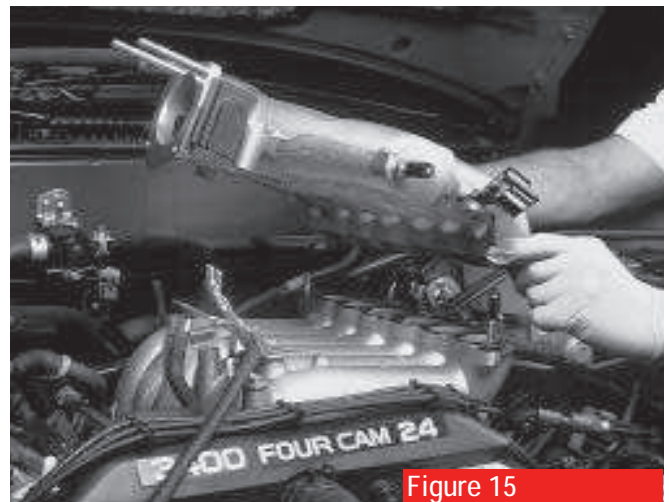

Figure 15
20. Remove the nuts and bolts from the upper half of the intake manifold and set it aside **(figure 15)**.
NOTE: The gasket between the surge tank and the manifold (figure 15) is interchangeable for use as the supercharger's intake manifold gasket (see section B – 2, page 11).